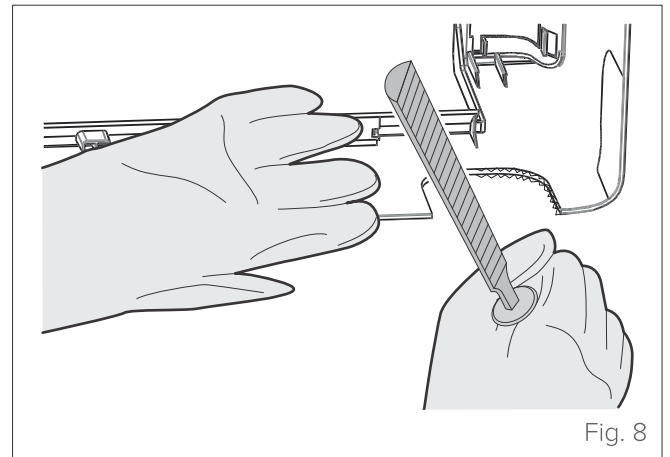

Fig. 8
- 1 Determine hole position according to the position of the mounting plate. To help you choose the optimal position, refer to point “Mounting plate dimensions”. The hole in the wall should have a minimum diameter of 65 mm and a slight downward slope to facilitate drainage (see “Fig. 8”).